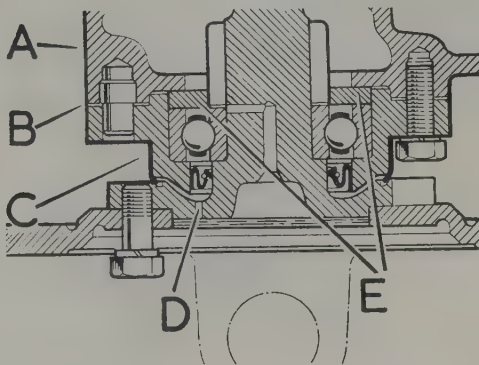

Fig. 8.8. Checking clearance between drive shaft housing and pinion housing
- 14 Before fitting the securing bolts check that the clearance between the face of the drive shaft/pinion housing is between 0.003 and 0.010 in (0.07 and 0.25 mm) (Fig.8.8). This is the correct bearing preload and any deviation from the clearance specified will be due to damage or incorrect assembly.